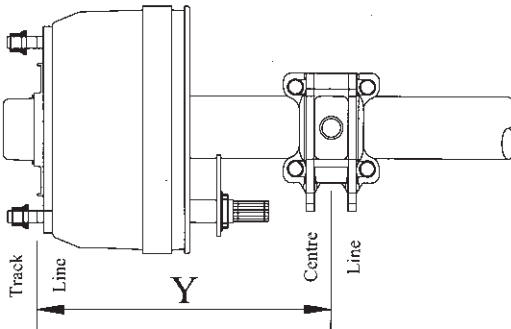

FIG 3.1
1. Ascertain the suspension spring/hanger centres ensuring that the maximum 'Outset' is not exceeded (See Fig. 3.1 below).
To ensure that the maximum bending moment is not exceeded, please ensure that the load (in tonnes) multiplied by the distance from the centre of the saddle to track line (in millimetres) does not exceed 4250 tonne millimetres. This is shown below in Fig. 3.1